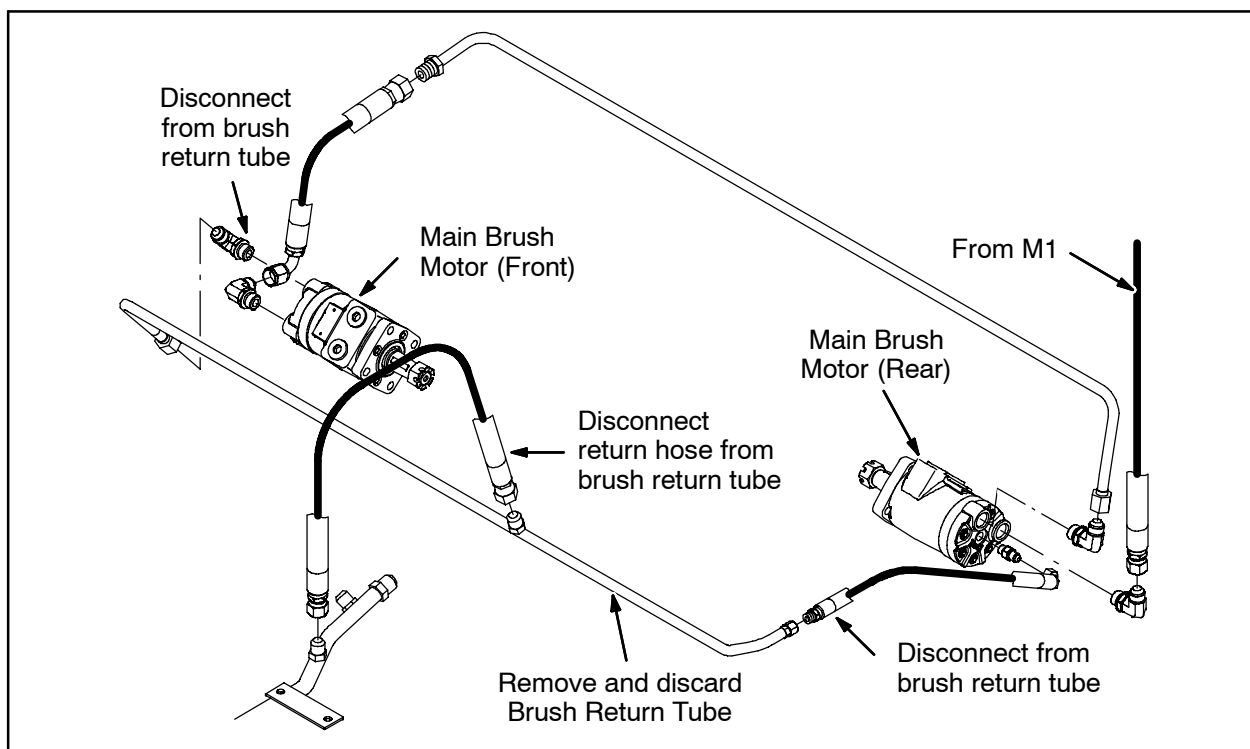
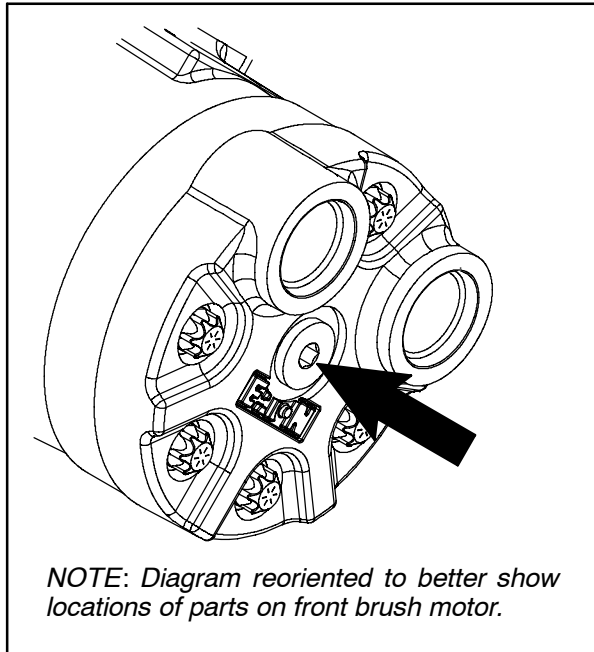
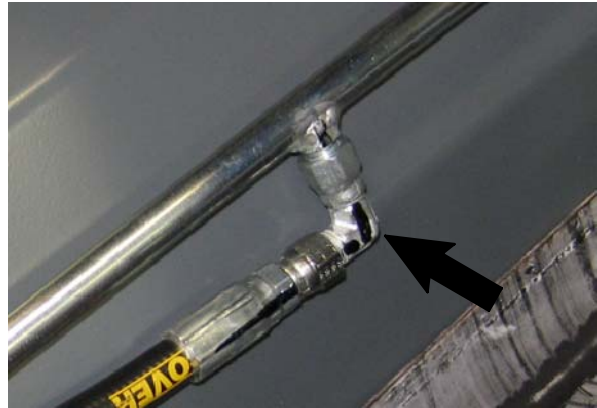
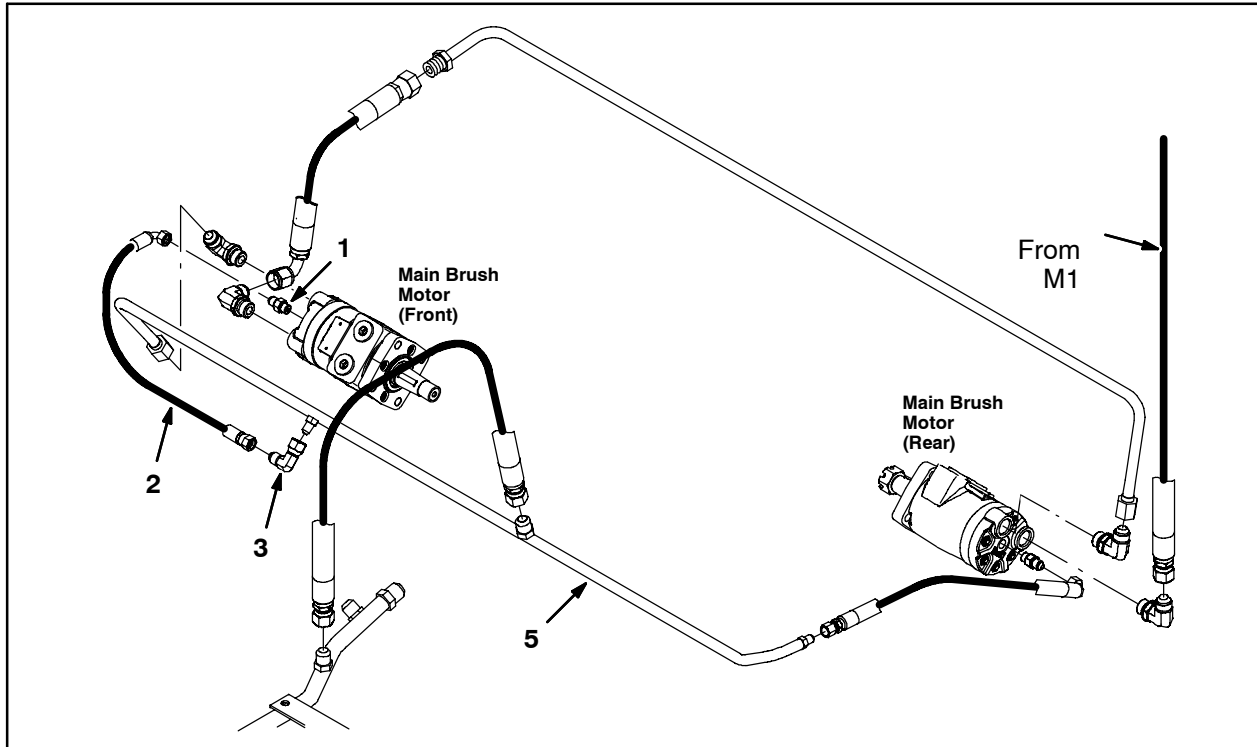

FIG. 2
FIG. 3
FIG. 5
FIG. 7
9. Remove the brush return tube from the scrub head. Discard the brush return tube. Refer to Fig. 2.
1. Remove the plug from the center port of the front brush motor. Refer to Fig. 3.
2. Install the straight fitting (1) into the center port of the front brush motor. Refer to Fig. 3 and Fig. 7.
3. Connect the 20" hydraulic hose (2) to the straight fitting (1). Refer to Fig. 3, Fig. 4, and Fig. 7.
4. Install the 90° fitting (3) onto the new brush return tube (5). Orient the 90° fitting so it is pointing out parallel with brush return tube. Refer to Fig. 5 and Fig. 7.
5. Position new the brush return tube (5) onto the scrub head where the old one had previously been located and connect the hose from the rear brush motor to the brush return tube. Refer to Fig. 2 and Fig. 7.
6. Connect the other end of the brush return tube (5) to the 90° fitting on the front brush motor. Refer to Fig. 2 and Fig. 7.
7. Connect the return hose to the brush return tube (5). Refer to Fig. 2 and Fig. 7.